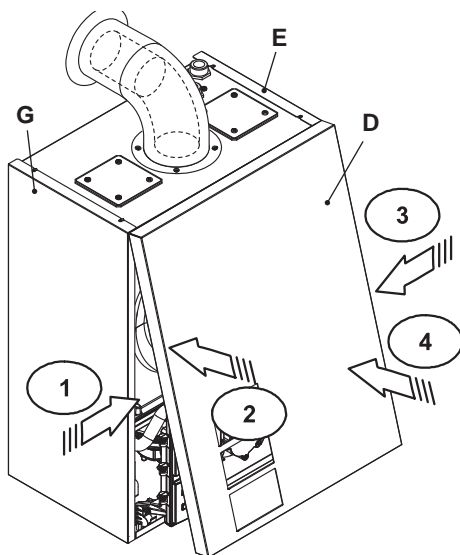

Fig. 9.4
- Push the spring towards the internal side of the boiler and simultaneously push the front case panel D until it is completely hold in place (Fig. 9.4) step 1-2.
- Repeat the same operation on the opposite side of the front panel D , (Fig. 9.4) step 3-4.